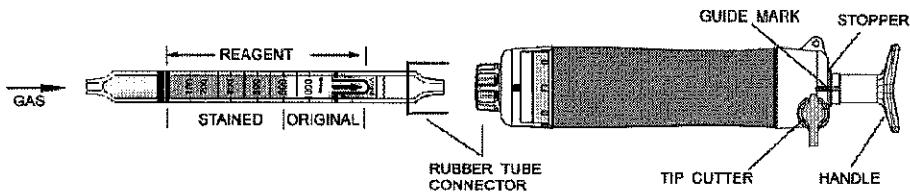

Fig.1
- ① Break both ends of the detector tube.
- ② Insert the detector tube into the aspirating pump securely as shown in Fig.1. (Arrow mark shall point to the pump.)
- ③ Align the guide marks on the handle and stopper of the aspirating pump.
- ④ Pull the pump handle at a 1/2 stroke until it locks and wait for 30 seconds or until the completion of sampling is confirmed with the flow indicator of the pump (See descriptions about the flow indicator in the instruction manual of the pump).
- ⑤ On completion of sampling, read the scale at the maximum point of the stained layer.